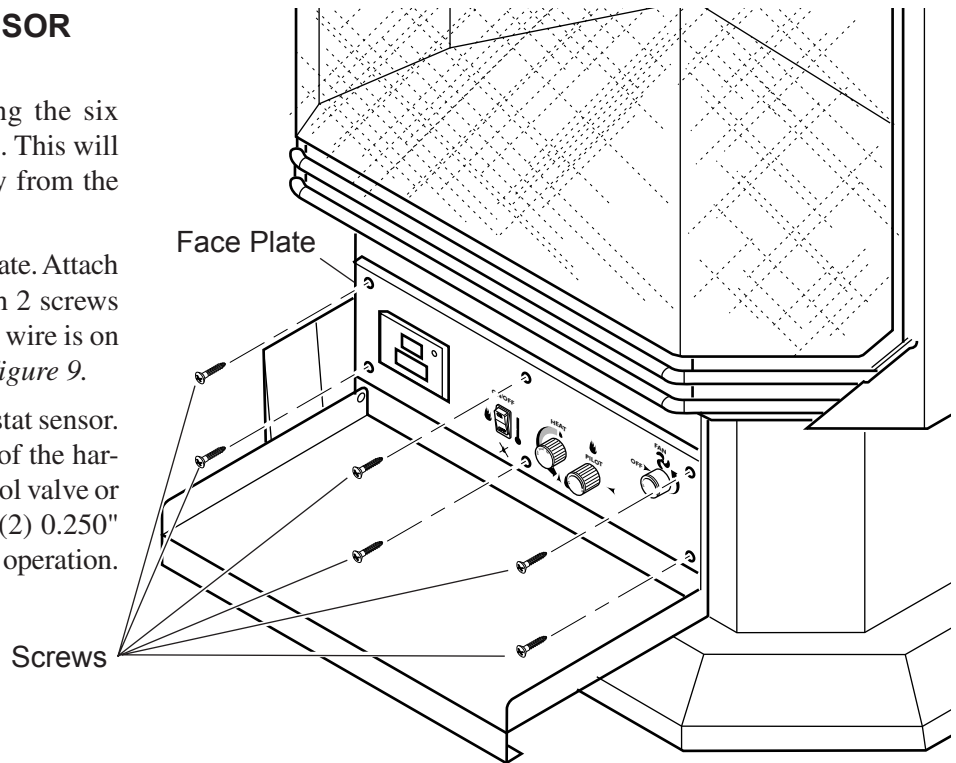

Figure 8 - Removing Face Plate from Stove
1. Remove the face plate by removing the six screws holding the faceplate in place. This will allow you to pull the faceplate away from the unit about 3" to 4". See Figure 8.